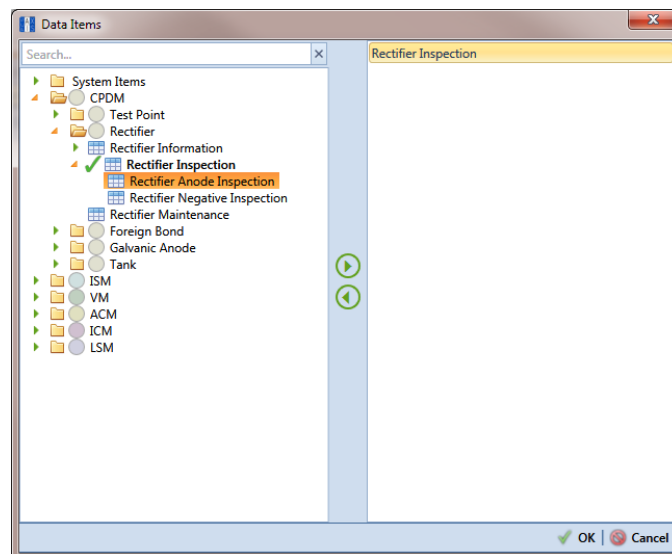

Figure 10-34. Data Items
- 12 Choose data item(s) you want to import and export. Click  **Add Data Item** to open the *Data Items* window and then complete the following steps (Figure 10-34):